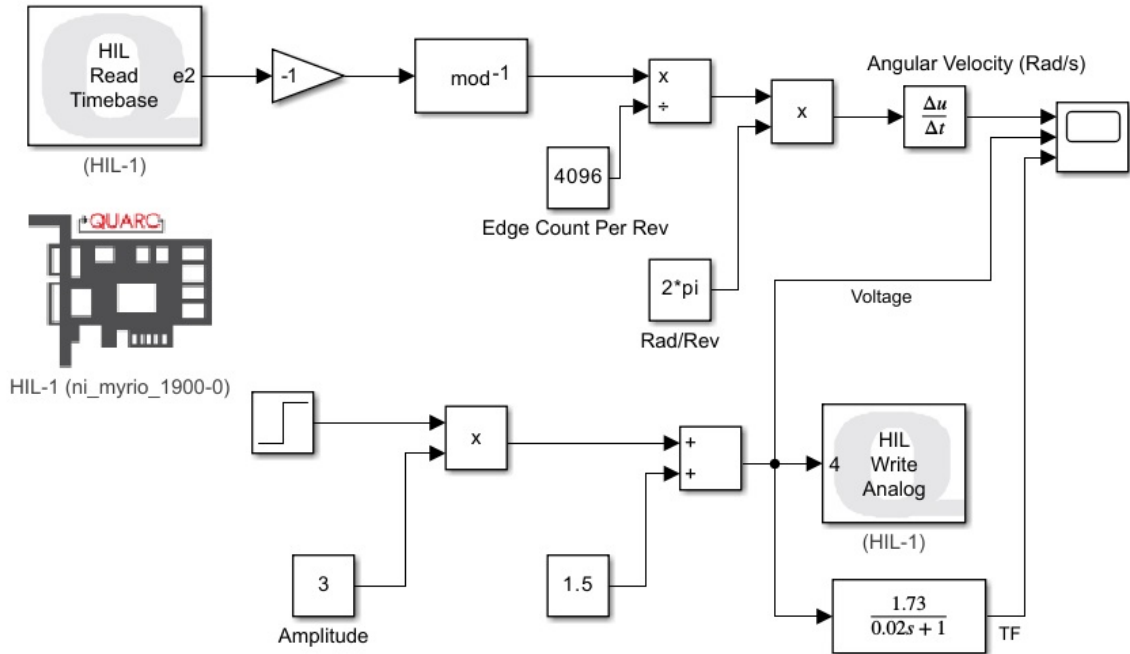

Figure 3: Testing Accuracy of Estimated Transfer Function
3. Connect the step input to the input port of the transfer function block. Connect the output of the transfer function block to the scope. The model should now look something like Figure 3.